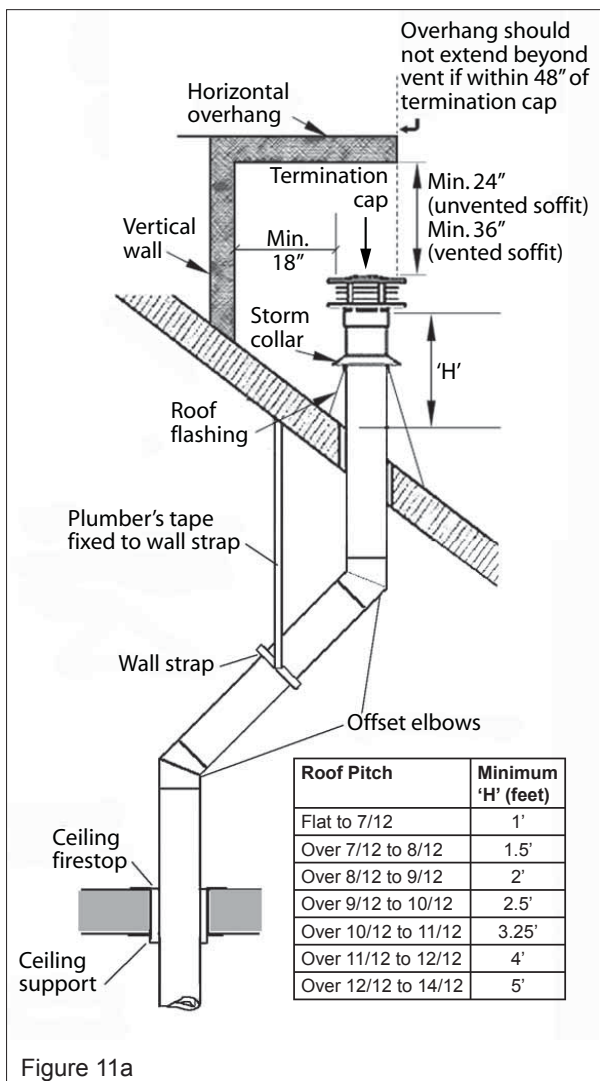

Figure 11a
2. The venting system for these appliances is considered to be a **Special Venting System**. The rule in the *Natural Gas and Propane Installation Code CAN/CGA-B149* requiring a minimum vent height of 2' above any portion of a building within 10' does not, therefore, apply. See figure 11a.